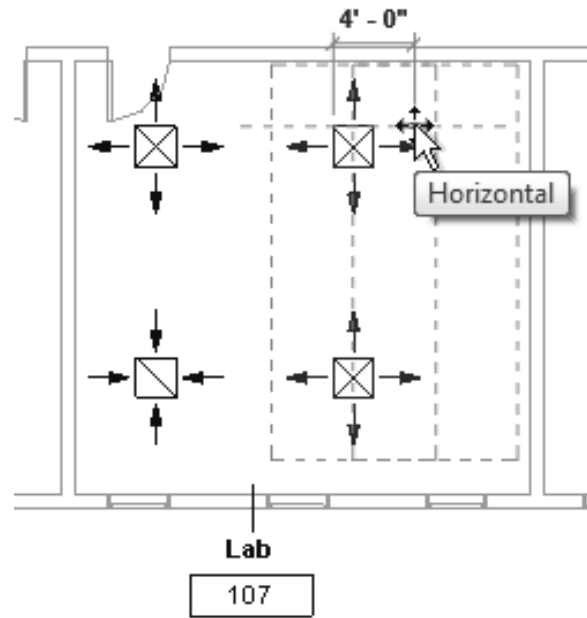

Figure 2-81
11. Select a base point on one of the air terminals and then use temporary dimensions to move the air terminals **4'-0"** to the right, as shown in Figure 2-81.